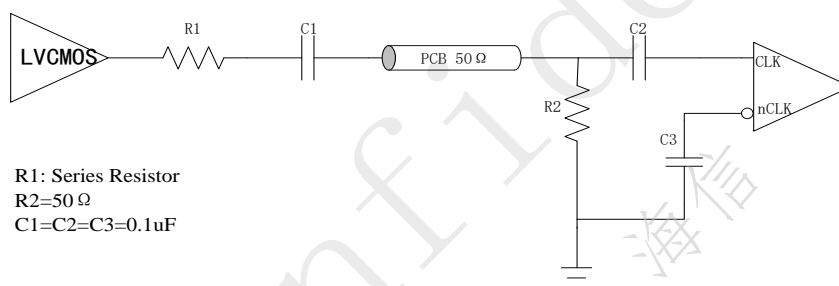

Figure 3. Single-Ended LVCMOS input, AC Coupling
**CLK/nCLK single-ended inputs:** It is possible to drive it with a single-ended clock. For large single-ended input signals, such as 3.3V or 2.5V LVCMOS, a 50 $\Omega$  load resistor should be placed near the input for signal attenuation to prevent input overdrive as well as for line termination to minimize reflections. The CLK input has an internal bias voltage of about 1.4V, so the input can be AC coupled as shown in Figure 3. The output impedance of the LVCMOS driver plus R1 should be close to 50  $\Omega$  to match the characteristic impedance of the transmission line and load termination.